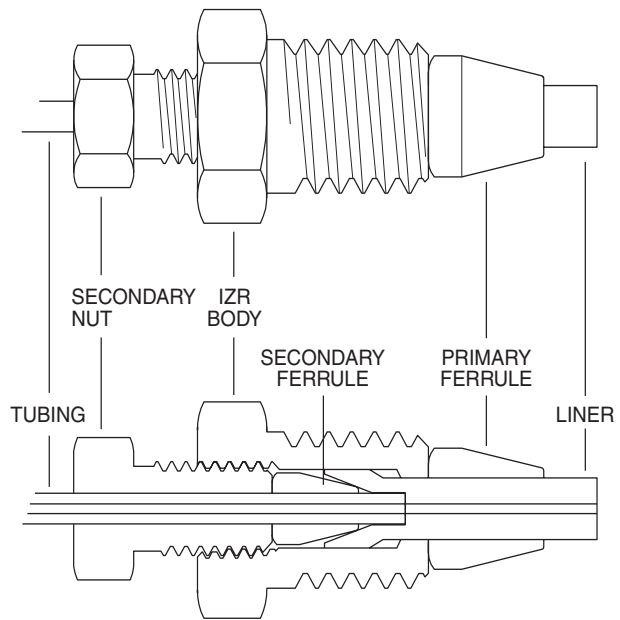

Figure 2: IZR cutaway view
1. Remove the secondary nut and ferrule from the IZR body. (**Figure 2**)
5. Slide the secondary nut and ferrule onto the tubing as oriented in **Figure 2**.